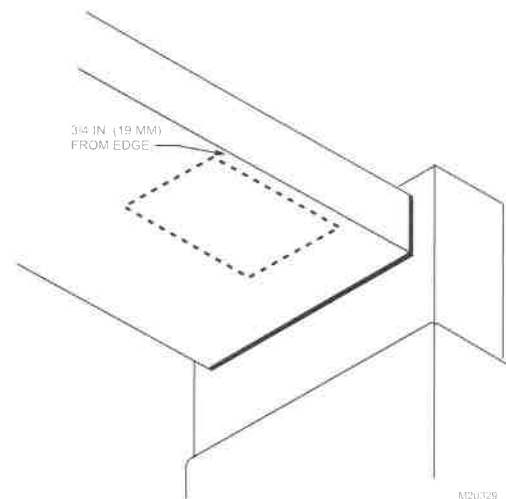

Fig. 5. Mounting hole location.
2. Drill 3/8 in. hole (10 mm) within the outlined mounting hole location. See Fig. 5.